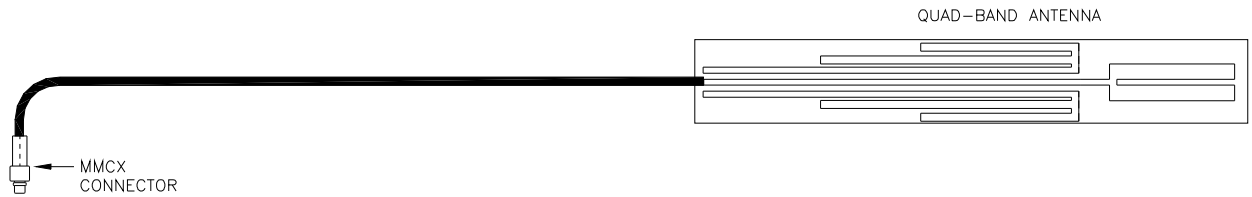

Figure 1-3
- Metretek 1015-0208-001 quad-band antenna as shown in Figure 1-3. The use of this antenna may not be necessary if the cellular service will continue to be
- 3) If the original antenna is going to be replaced by the quad-band antenna (shown in Figure 1-3), then refer to the next figure.